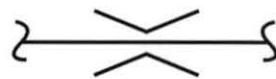

Figure 50. Flow Sensing Element Symbol
4. Determine which type of flow sensing element symbol is shown in figure 50.